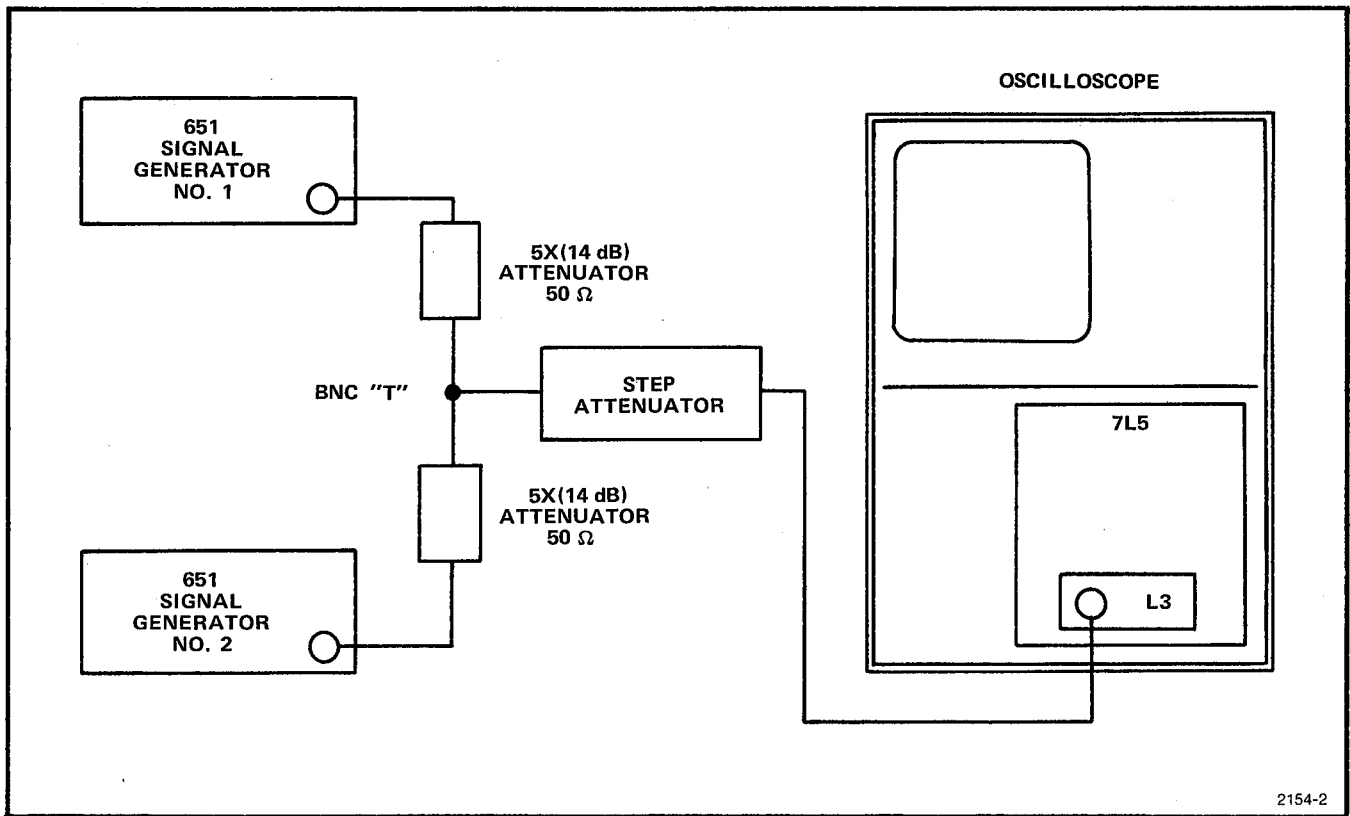

Fig. 3-1. Intermodulation distortion test equipment setup.
b. Connect two signal generators, such as HP654 or 651, plus the attenuators, as shown in Fig. 3-1. Set the step attenuators for 32 dB of attenuation, and adjust the signal generators for two full-screen signals one division apart (such as 4495 kHz and 4500 kHz).
Some generators may produce cross talk when in close proximity to the unit. Separate and orientate for best IM. In some cases an isolated combiner or directional bridge (e.g., HP Model 8721A) may be desirable instead of the attenuators shown in Fig. 3-1.